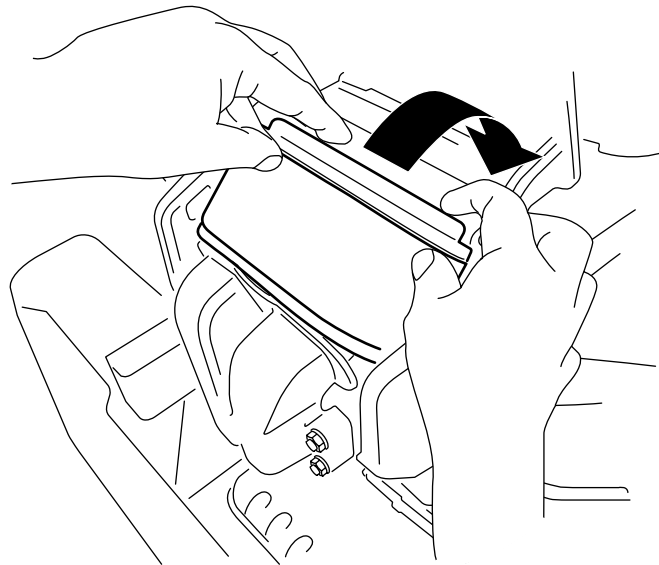

Figure 37
3. Rotate the filter down into the chamber and fully seat it against the manifold (Figure 37).